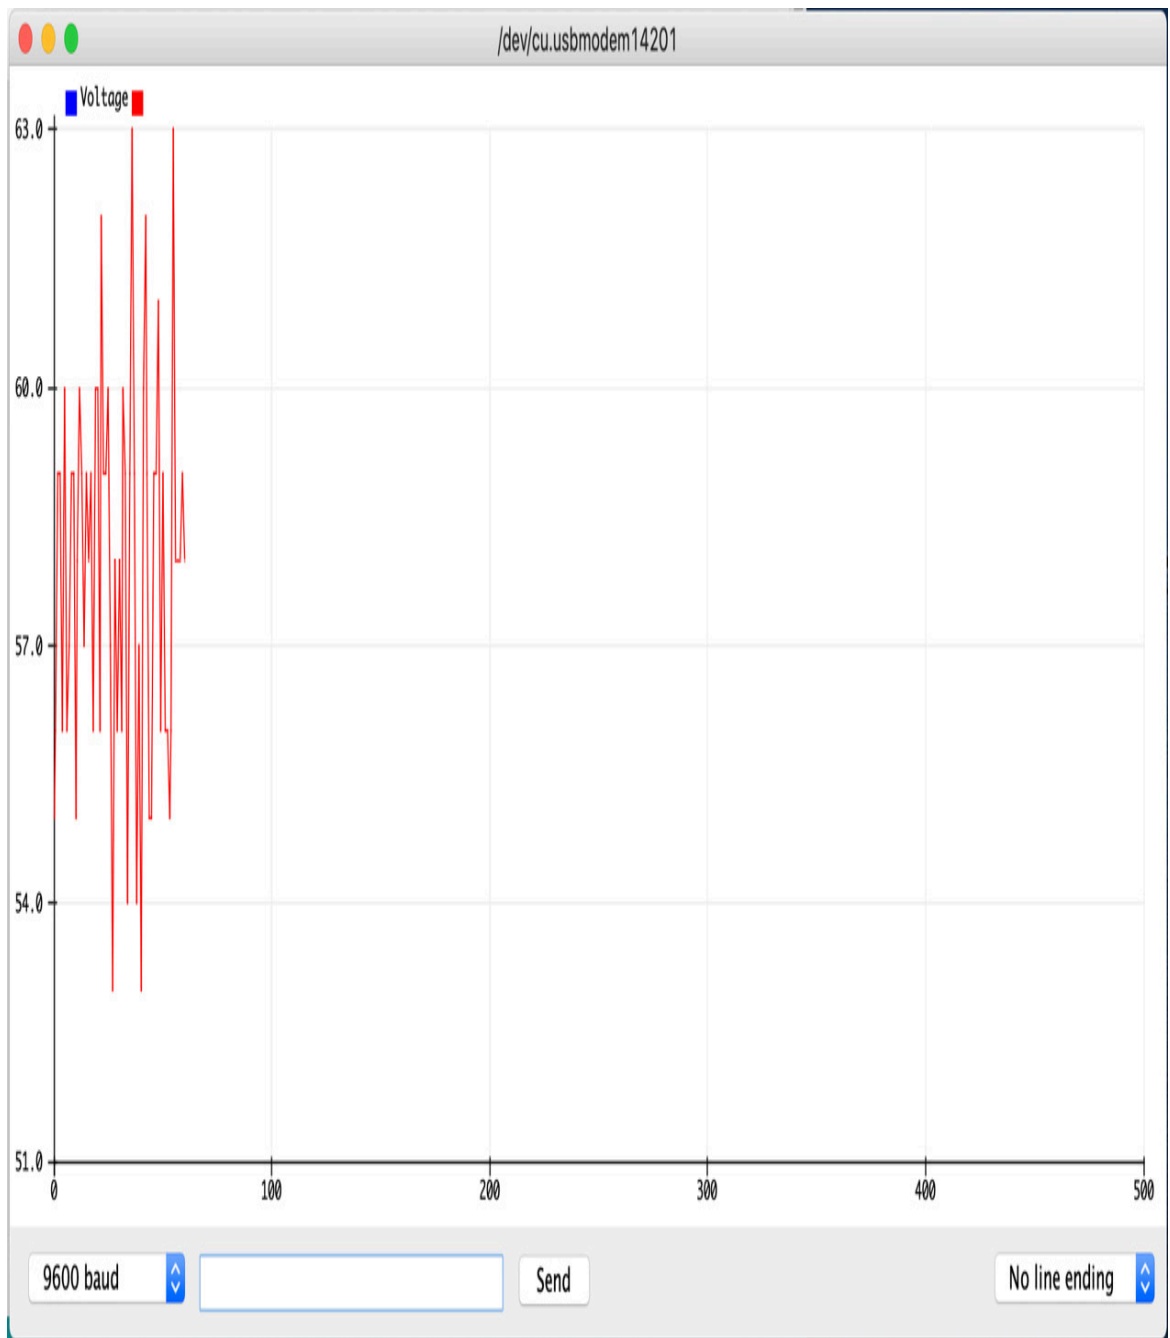

Figure 11.9 – Sensor signal waveform in the serial plotter
4. We are going to load the program to the STM32 board and review the serial plotter of the Arduino IDE to know the waveform of the analog signal that we are reading from the sensor, and the result can be seen in *Figure 11.9*: